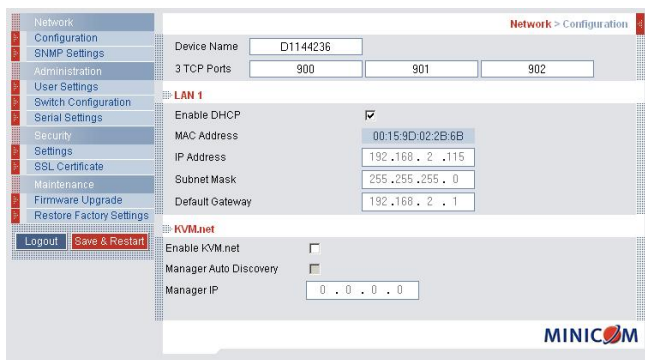

Figure 9 DXU IP II Web interface
4. Press **Enter**. The Web interface opens at the Network Configuration page. See Figure 9.
Under LAN 1 in Figure 9, is the following: